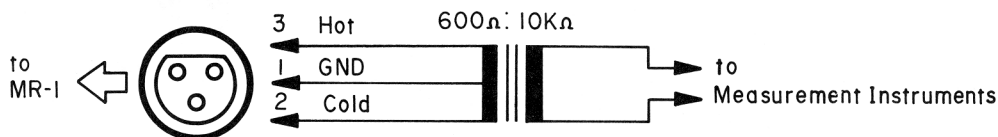

Fig. 5.1
3. Adjustment can be made by way of either the XLR Line Input/Output Jacks (Balanced) or the 1/4-Inch Line Input/Output Jacks (Unbalanced). However, when the former Jacks are used, a balanced type transformer must be connected between the Jacks and measurement instruments to be used as shown in Fig. 5.1.